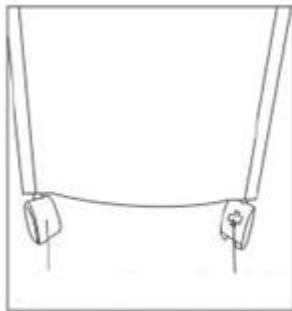

fig.1
- c) Take out the casters and the caster wrench. The casters with skid are for the two front holes and the casters without skid are for the two back holes at the bottom of the unit. (Fig. 1)